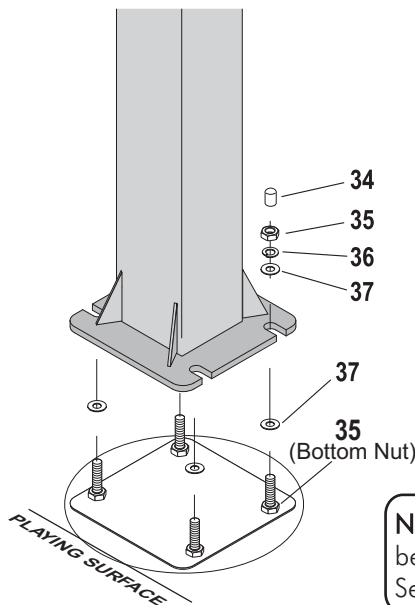

Figure 10
12. Put a flat washer (#37) on each anchor bolt. Lift post onto anchor system and secure with one flatwasher (#37), one lock washer (#36) and one hex nut (#35) for each anchor bolt. Tighten Fasteners finger tight, leave loose enough to level pole. Place a level on pole and adjust bottom nuts #35 until pole is level (left to right and front to back). **Tighten top four hex nuts #35 tight.** Place a thread protector (#34) on each anchor bolt. See **Figure 10**.